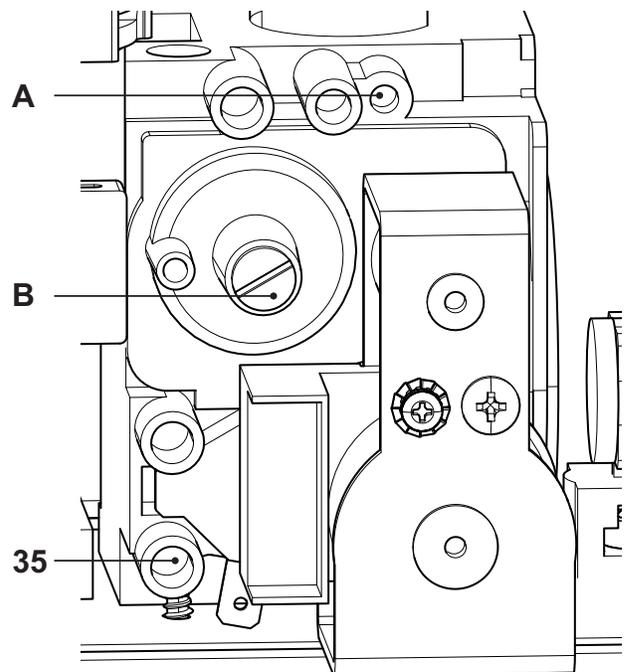

Fig. 7.6
- When the boiler is switched off (out of order), check the supply pressure by using the 35 point in Fig. 7.6 and compare the value read with that reported on the Gas supply pressure table in the "Technical Data" section (pag. 32 Activ A Plus 25C, pag. 35 Activ A Plus 30C and pag. 38 Activ A Plus 35C).
- Close well the pressure point 35 in Fig. 7.6.